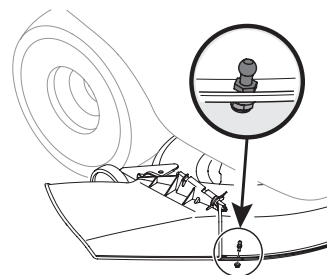

Figure 21
2. Install the ball pin (711-04069) from hardware pack 689-02201 into the hole in the front of the mower deck, and secure with the included flange lock nut (712-04064). See Figure 21.